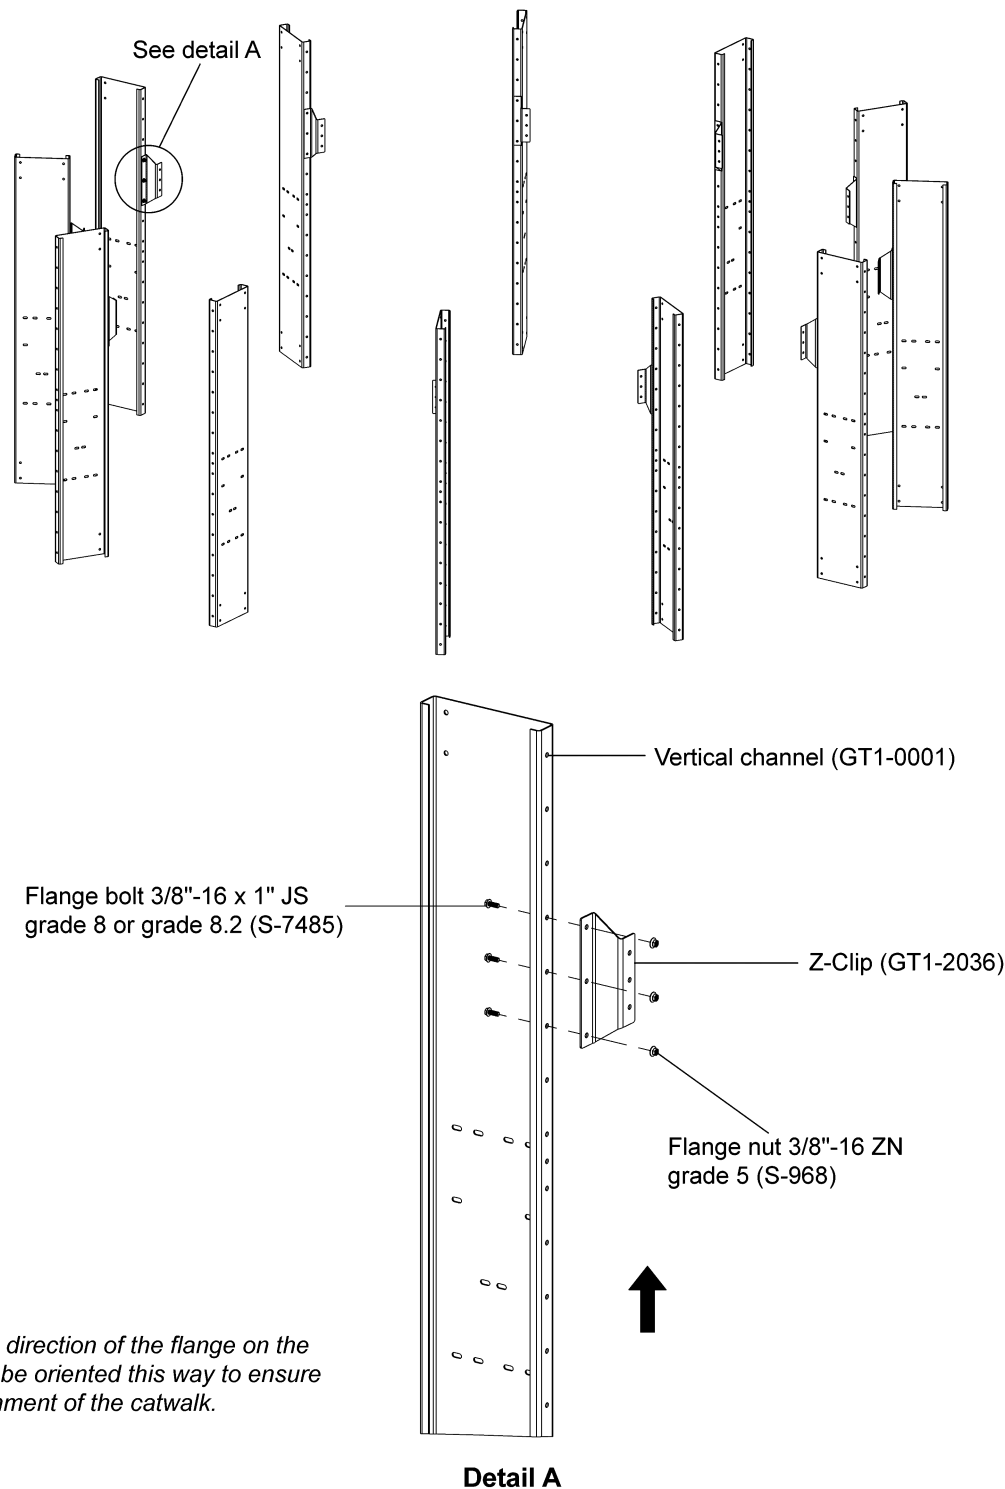

Figure 5A
1. Bolt Z-clips (GT1-2036) to all vertical channels (GT1-0001). The Z-clip can be installed on each vertical channel as inner wall sheets are installed using 3/8"-16 x 1" JS grade 8 or grade 8.2 bolts (S-7485) and 3/8"-16 ZN grade 5 nuts (S-968). (See Figure 5A.)